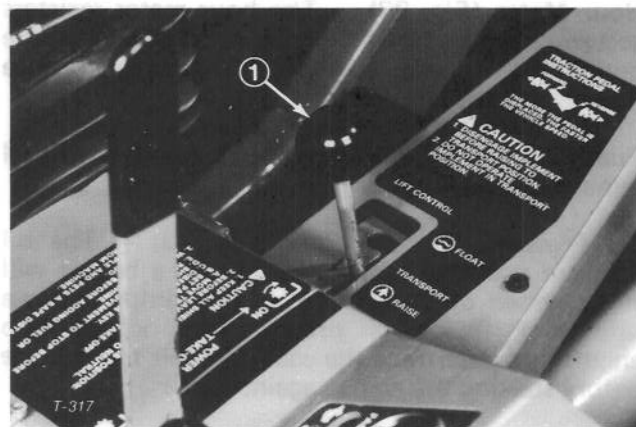
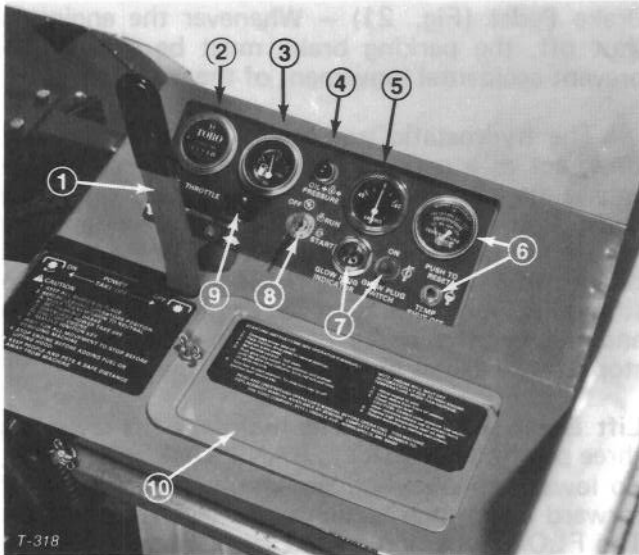

Figure 22
Figure 23
**Lift Lever (Fig. 22)** – The hydraulic lift lever has three positions: FLOAT, TRANSPORT and RAISE. To lower implement to the ground, move lift lever forward into notch, which is the FLOAT position. The FLOAT position is used for operation and also when machine is not in operation. To raise implement, pull lift lever backward to the RAISE position. After implement is raised, allow lift lever to move to the TRANSPORT position. Normally, implement should be raised when driving from one work area to another, except when descending steep slopes.
**PTO Lever (Fig. 23)** – The PTO lever has two positions: ON, engage and OFF, disengage. Slowly push PTO lever fully forward to ON position to start the implement or cutting unit blades. Slowly, pull lever backward to OFF position to stop implement operation. The only time PTO lever should be in the ON position is when implement or cutting unit is down in operating position.
**Hour Meter (Fig. 23)** – The hour meter registers accumulated hours of engine operation. Use the hour meter to determine intervals for service maintenance and lubrication.
**Fuel Gauge (Fig. 23)** – Indicates quantity of fuel remaining in fuel tank.
**Oil Pressure Warning Light (Fig. 23)** – The oil pressure warning light will glow and a buzzer will sound when oil pressure in engine drops below a safe level. If low oil pressure ever occurs, stop engine and determine the cause. Repair the damage before starting the engine again.
**Ammeter (Fig. 23)** – Ammeter shows charge rate of the battery by the alternator. When engine is running, there usually is a slight charge, unless engine is idling slowly. Needle will point to 0 when battery is fully charged. By contrast, alternator is not charging the battery when needle points to (-) negative side of ammeter, and if this happens, repair the charging system to prevent discharge of the battery.
**Temperature Switch/Gauge and Reset Button (Fig. 23)** – The temperature switch/gauge registers the temperature of the coolant in the cooling system. If temperature of coolant gets too high the engine will shut off automatically. When this happens, rotate ignition key to OFF. Automatic shut-off of the engine usually results from debris on front of screen or radiator, which reduces air flow. After cleaning outside of screen and radiator or repairing some other damage, press the reset button and start the engine.
**Glow Plug Switch and Indicator (Fig. 23)** – Use to preheat engine cylinders before and during starting procedures. Push switch lever upward and hold while watching indicator. Indicator will glow red when sufficiently heated. Length of time necessary to preheat cylinders should be determined by atmospheric temperature; refer to Starting/Stopping Engine, page 20.
**Key Switch (Fig. 23)** – The key switch, which is used to start and stop the engine, has three positions: OFF, RUN and START. Rotate key clockwise to the START position to engage starter motor. When engine starts, release key and it will move automatically to the ON position. To shut engine off, rotate key counterclockwise to the OFF position.
**Throttle Control (Fig. 23)** – Throttle is used to operate engine at various speeds. Moving throttle forward increases engine speed – FAST; backward decreases engine speed – SLOW. The throttle regulates the speed of the cutter blades or other implement components and, in conjunction with traction pedal, controls ground speed of the traction unit.
A 40 amp circuit breaker is also incorporated to protect the entire wiring circuit. A reset button is located on the lower side of the panel, which can be reached after removal of the battery cover (Fig. 23, 25). The button should be depressed if a total loss of all electrical functions should occur. However, the electrical system should first be checked to ascertain the reason for the malfunction.
1. Ensure parking brake is set, PTO lever is in OFF position (Fig. 23) and lift lever is in TRANSPORT or FLOAT position (Fig. 22). Remove foot from traction pedal and insure it is in neutral.
2. Move throttle control (Fig. 23) to full FAST position.
4. Turn key in key switch to START position (Fig. 23). Release key immediately when engine starts and allow it to return to RUN position. Move throttle control to SLOW position.